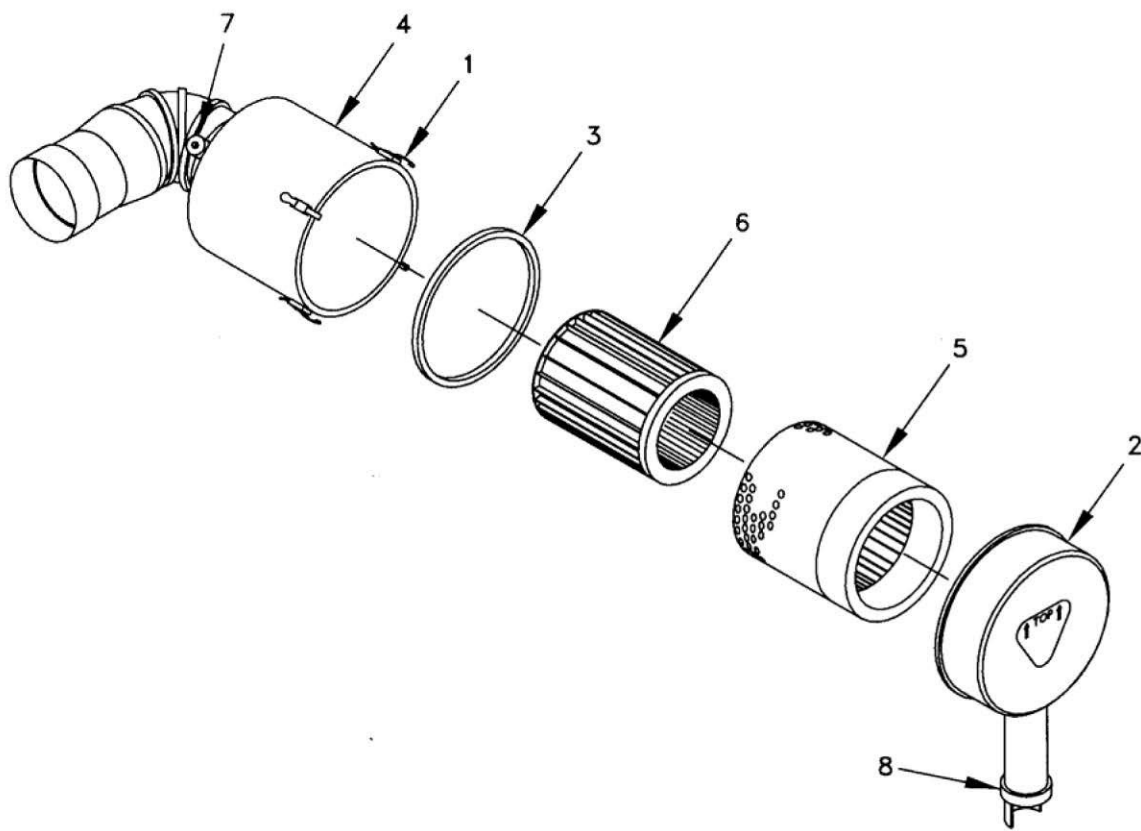

Figure 1. Air Cleaner Filter.
3. Unfasten four clips (Figure 1, Item 1) and remove air cleaner cover (Figure 1, Item 2) and gasket (Figure 1, Item 3) from air cleaner canister (Figure 1, Item 4).
4. Pull out primary filter element (Figure 1, Item 5) and safety filter element (Figure 1, Item 6).
2. Replace filter elements when damaged or they cannot be cleaned, or when restriction gauge (Figure 1, Item 7) stays red.
3. Check restriction gauge (Figure 1, Item 7) for cracks. Ensure gauge can be read, and that it returns to green when reset is pushed.
4. Squeeze rubber dust cup (Figure 1, Item 8) several times to expel dust and debris.
1. Install safety filter element (Figure 1, Item 6) inside primary filter element (Figure 1, Item 5) and install into air cleaner canister (Figure 1, Item 4).
2. Install gasket (Figure 1, Item 3) and cover (Figure 1, Item 2) and fasten four clips (Figure 1, Item 1).